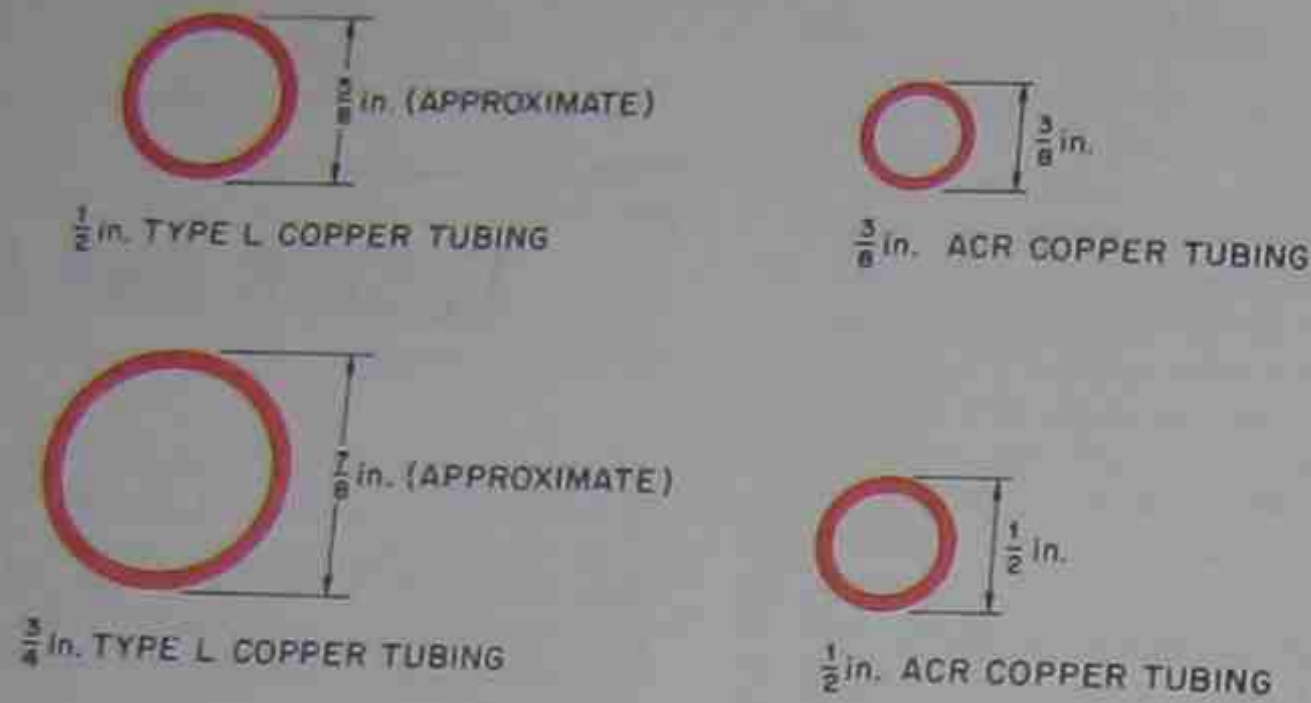

Figure 6-1. Tubing used for plumbing and heating is sized by its inside diameter. ACR tubing is sized by its outside diameter.
Copper tubing is available as soft copper or hard-drawn copper tubing. Soft copper may be bent or used with elbows, tees, and other fittings. Hard-drawn tubing is not intended to be bent; use it only with fittings to obtain the necessary configurations. Copper tubing used for refrigeration or air conditioning is called ACR (air conditioning and refrigeration) tubing. Copper tubing used in plumbing and heating is available in four standard weights: Type K is heavy duty; type L is the standard size and used most frequently; types M and DWV are not used extensively in this industry. The outside diameter of these four types is approximately  $\frac{1}{8}$  in. larger than the size indicated; that is,  $\frac{1}{2}$ -in. tubing has an outside diameter of approximately  $\frac{5}{8}$  in. ACR tubing is sized by its outside diameter,  $\frac{1}{2}$ -in. ACR tubing has an outside diameter of  $\frac{1}{2}$  in. For plumbing and heating applications use the inside diameter (ID), and for air conditioning and refrigeration applications use the outside diameter (OD), Figure 6-1. Copper tubing is normally available in diameters from  $\frac{1}{16}$  in. to greater than 6 in.